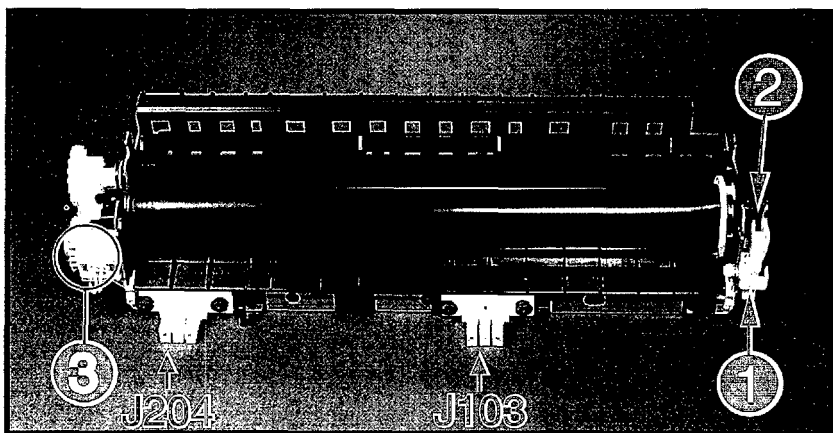

Figure 6-29 Removing the Upper Fusing Assembly
1. Unsnap and open the cable clip shown in Figure 6-29, callout 1.
3. Unplug the second connector shown in Figure 6-29, callout 2.
4. Squeeze the tab on the ceramic heater element connector and pull the connector free (Figure 6-29, callout 3).